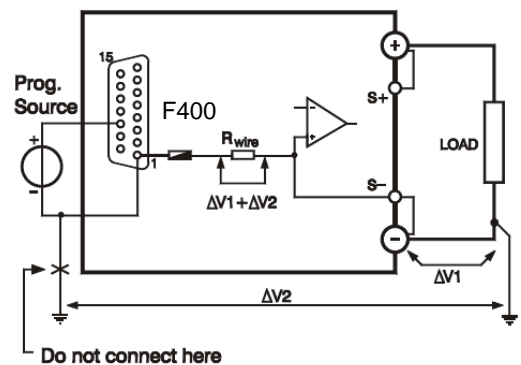

fig. 4 - 1
- Please check why current is flowing through pin 1 (see also next paragraph and fig. 4 - 1).
- Fig. 4 - 1 shows a typical earthing problem. In case the load has a connection to earth and the programming source as well, problems could occur. Improper choice of the earthing point of the load can give a voltage drop of  $\Delta V1$ .